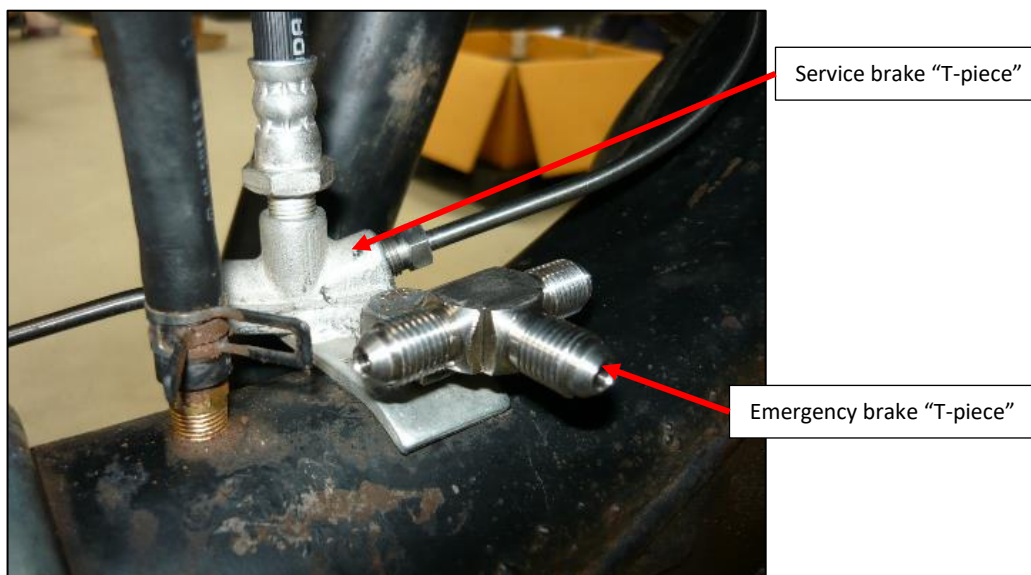

Fig. 43
- a. On vehicles with a single brake line to the rear axle. Mount the tee-union on the rear axle using the same fasteners as the service brake “T-piece”. See Fig. 43